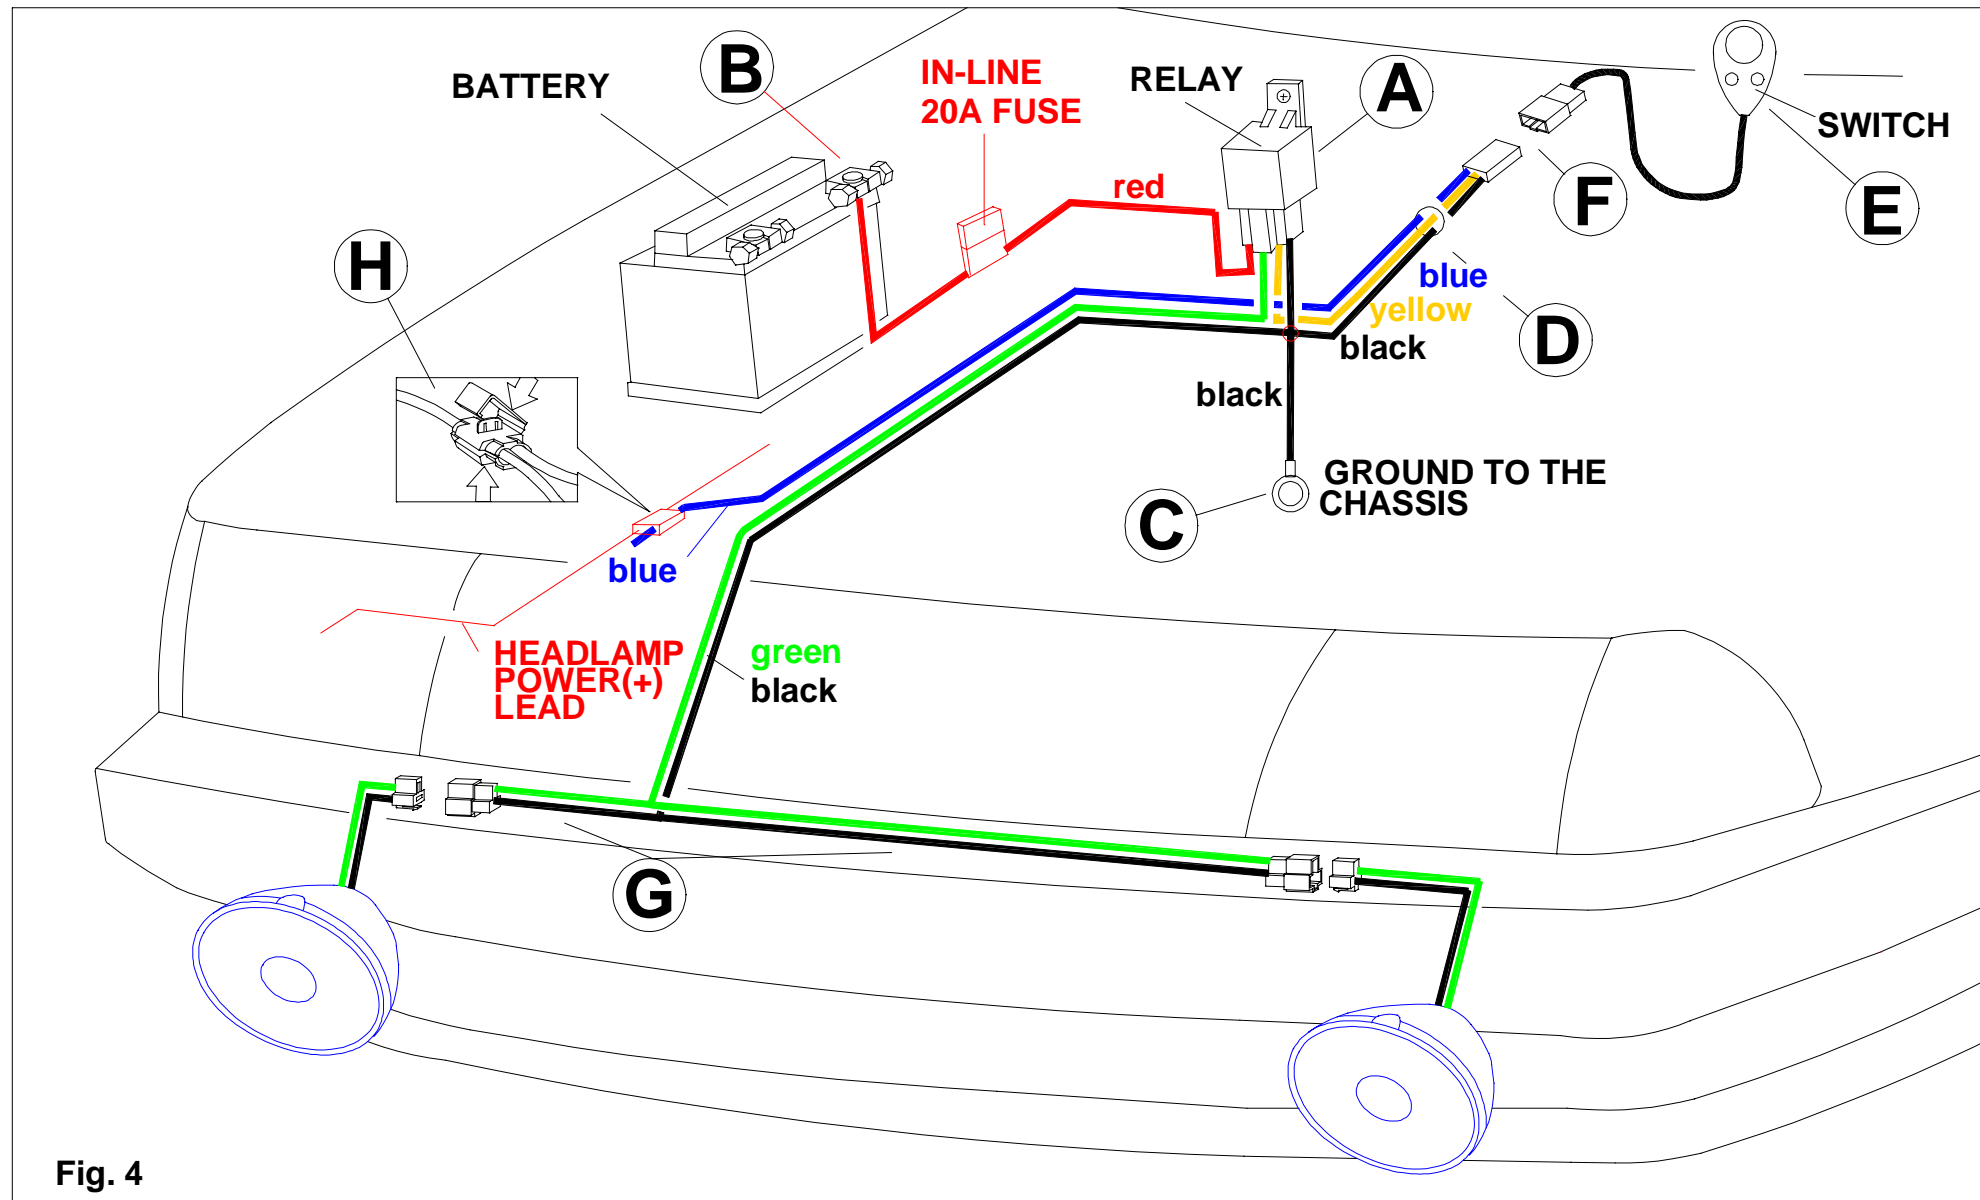
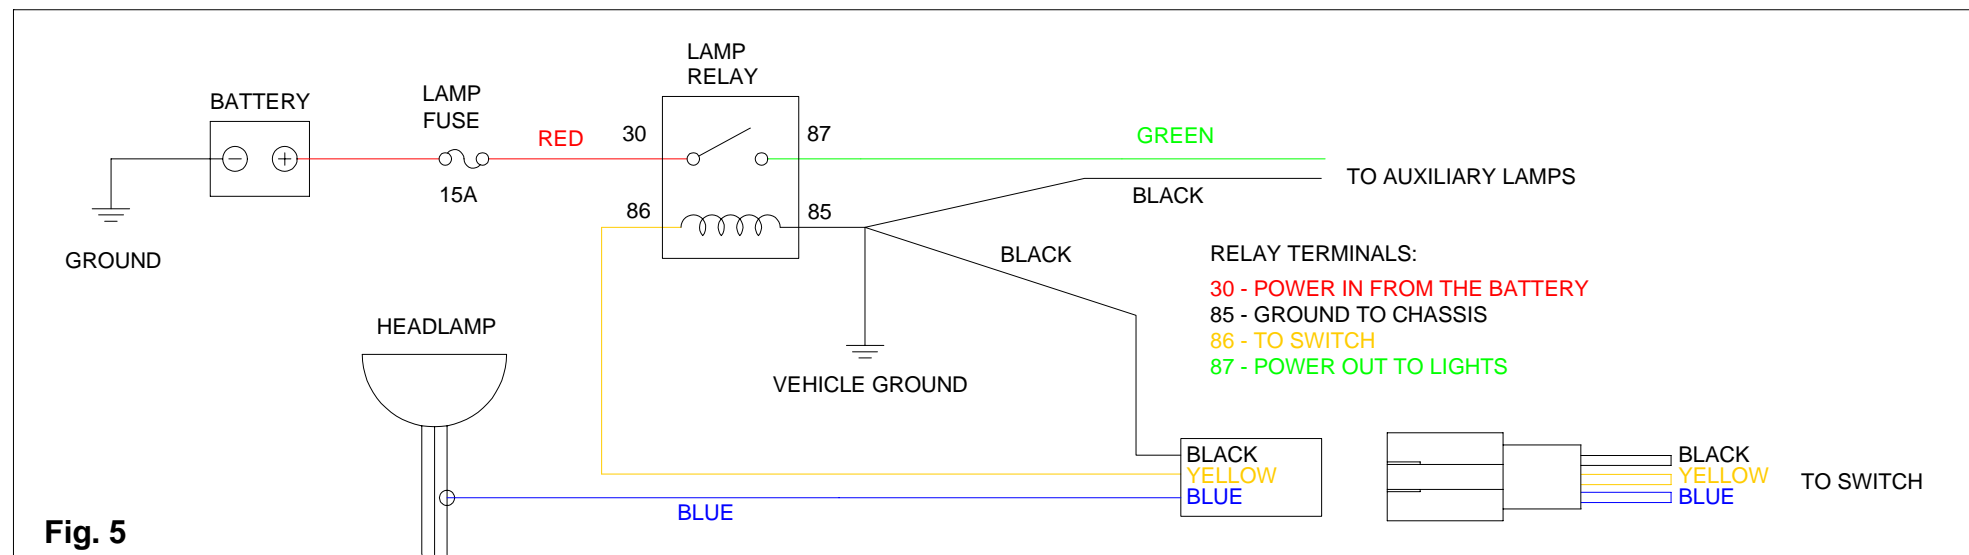

Fig. 4
Fig. 5
2. Refer to Fig. 4 and Fig.5 for diagram of wiring procedure.
3. Mount Relay as follows: (See A in Fig. 4)
4. Connect the relay power lead to the battery as follows: (See B in Fig. 4)
- b. Connect the ground wire to a vehicle chassis ground or the negative (-) battery terminal. (See C in Fig. 4)
5. Route wires to the switch as follows: (See D in Fig. 4)
6. Install switch as follows: (See E in Fig. 4)
- c. Plug the connector from the wiring harness into the switch connector. (See F in Fig. 4)
7. Route harness to auxiliary lamps as follows: (See G in Fig. 4)
8. Connect the auxiliary lamp relay power (+) lead (blue) as follows: (See H in Fig. 4)